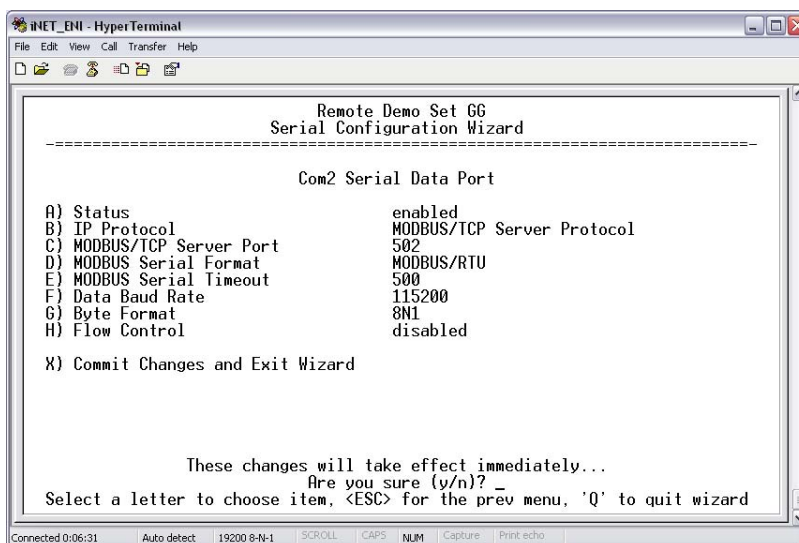

Figure A-19. Confirm Saving COM2 Changes
8. The Wizard asks you to confirm that you want to save the changes. See Figure A-19. Press **Y** to save the changes and exit the Serial Configuration Wizard.